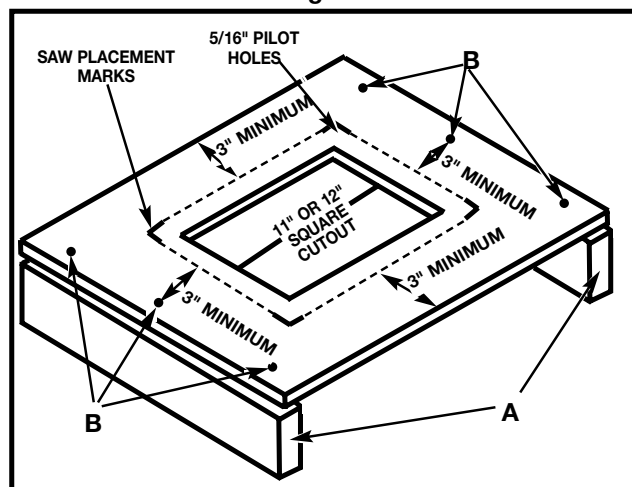

Fig. 4B
You can also construct a simple elevated support, as shown in Fig. 4B.
Square the saw on the supporting surface and mark the location for four 5/16 inch holes to be drilled (Fig. 4B).
Set the saw aside and then drill holes in these marks. Locate and mark an 11" or 12" square centered between the four mounting holes. Cut out and remove the square (Fig. 4B).
To elevate the supporting surface, measure two 2x4s (A) Fig. 4B to the width of two opposite sides of the supporting surface. Attach the supporting surface to the narrow edges of the 2X4s (as shown in Fig. 4B) using wood screws (not provided) in at least three spots (B) Fig. 4B on each side.